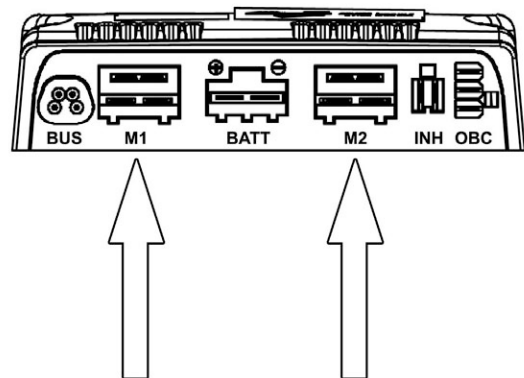

Figure 31. Drive motor connections.
7. Disconnect the drive motor connections from the Power Module. See fig. 31.
3. Reconnect the drive motor connections to the Power Module. See fig. 31.